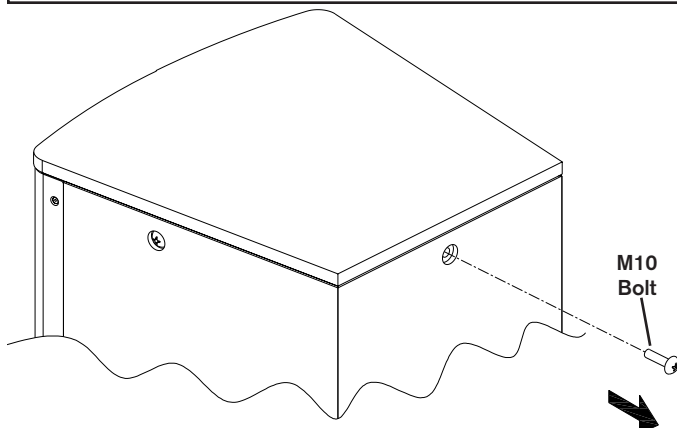

Figure 2: Removing the M10 Bolts from the Loudspeaker
1. Remove the M10 shoulder bolts from the speaker (See Figure 2).